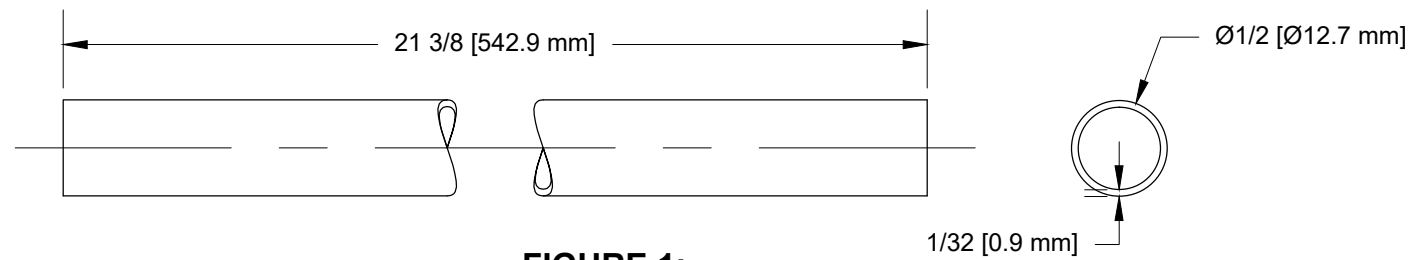

FIGURE 1:
Step 1: Fabricate two CS-00013 Bellcrank to Aileron Pushrods by cutting two pieces of ST4130-035 X 1/2 (powder coated) to the length shown in Figure 1.